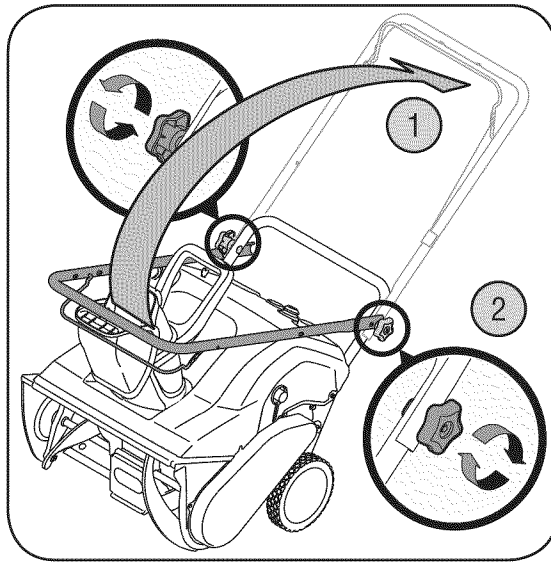

Figure 3-1
1. Making sure not to pinch the cable in the process, pivot the upper handle into the operating position as illustrated in Figure 3-1 until it clicks into place.
2. Tighten the wing knobs to secure the handle in place as in Figure 3-1.